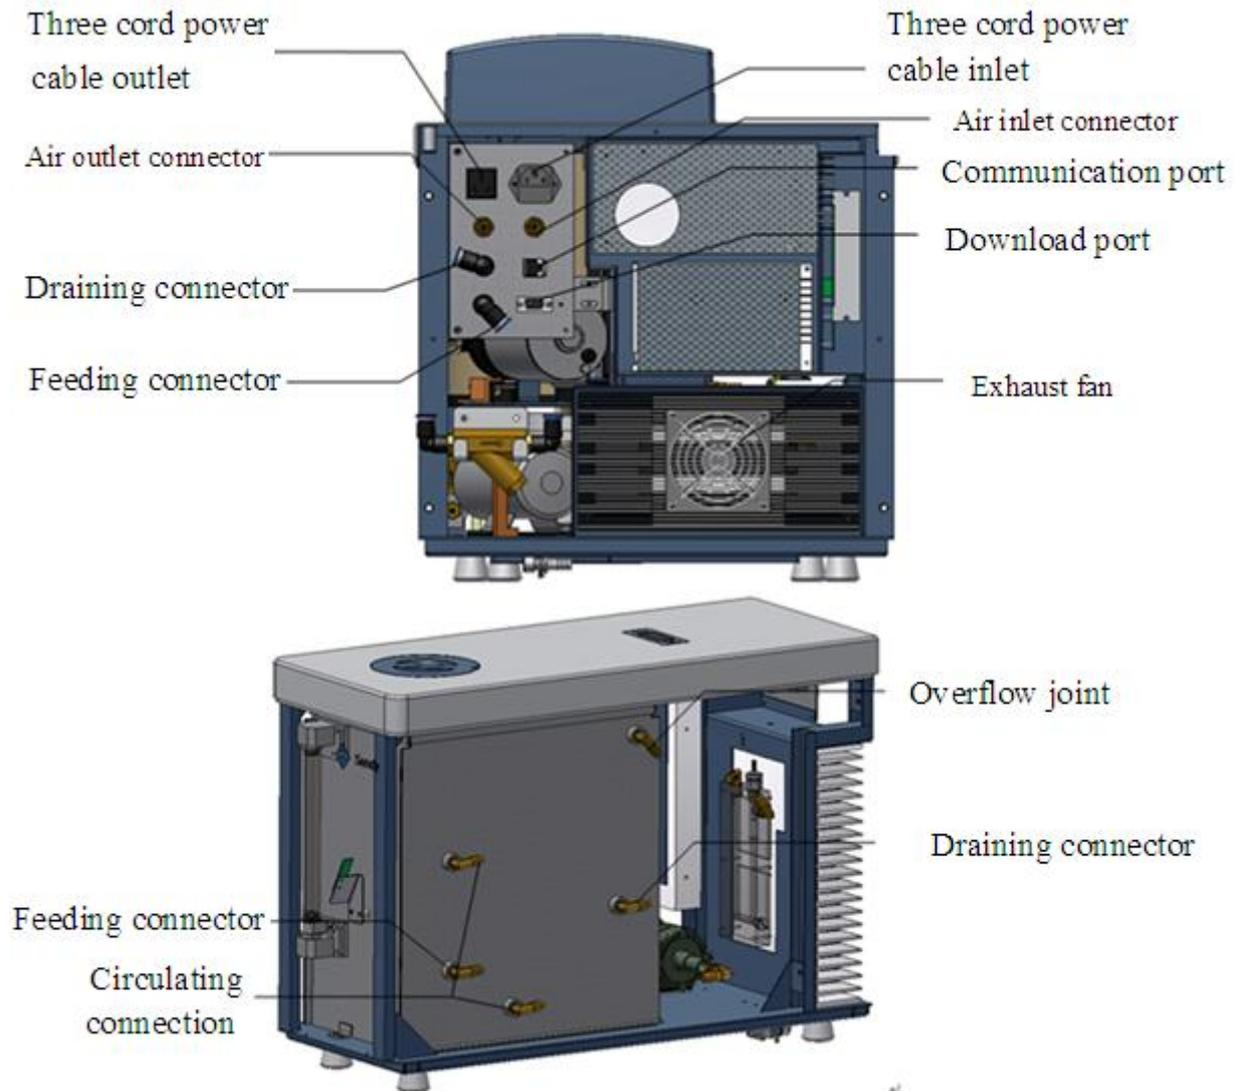

Fig.3-1 Connecting of cooling tank and mainframe
4. When install the instrument, the mainframe and water tank can be placed by reference to fig3-1. Please note to keep the distance to be 80mm or more between the instrument back plate and the wall. On the left and right sides to keep a distance of 80 mm or more in order to reserve the space for maintenance and inspection.
3. Connect main frame with thermostatic water tank: First, connect quick coupling to I/O connector of mainframe and cooling tank, then connect mainframe I/O plate and connector on cooling tank I/O plate on the order from high to low. Shown as Fig.3-1.